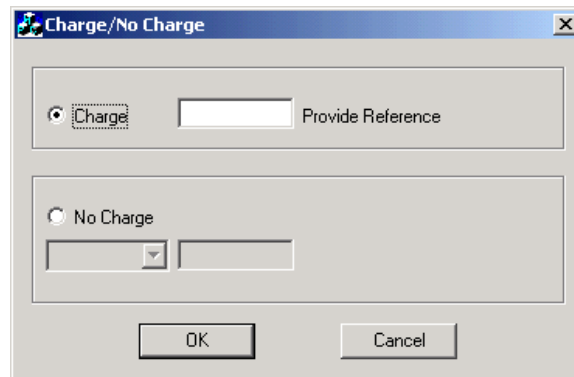

Figure 6
5. If you are reprogramming a DDEC III or DDEC IV ECU, a Charge or No Charge Screen will appear (Figure 6). Select "Charge".